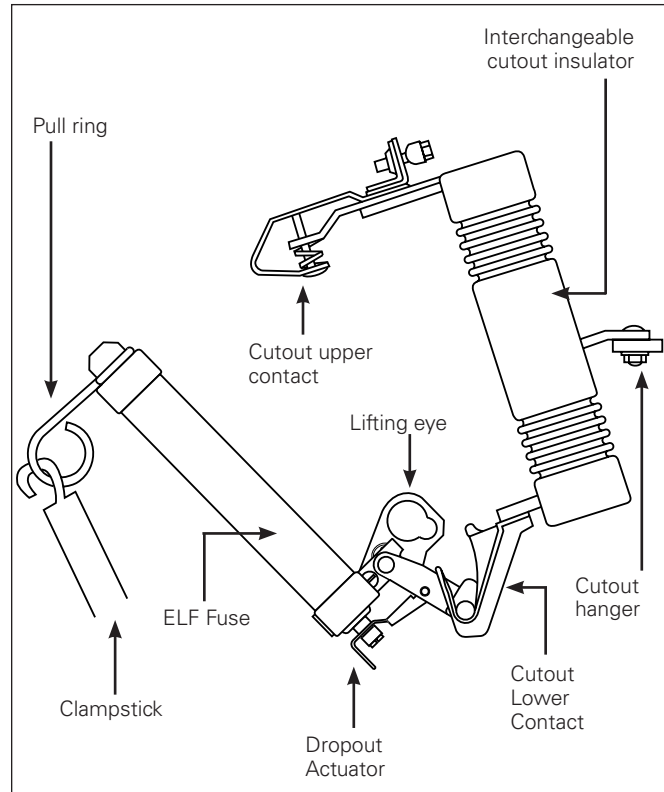

Figure 2. Intermediate position for the installation of ELF fuse into interchangeable cutout
- To properly close, the operator should rotate the ELF fuse to an intermediate position shown in Figure 2.